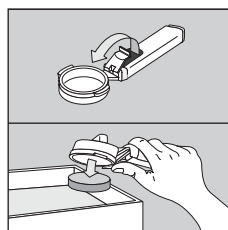

fig. 12
8. To remove the used coffee lock the filter with the built-in lever and let the coffee fall out by knocking the over turned filter holder (fig. 12).